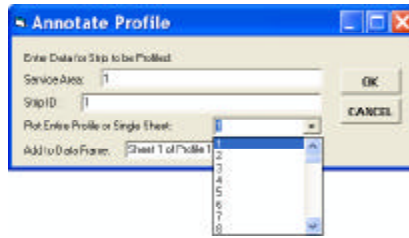

Figure 21
10. **Click** at the **fourth** menu combo box of the **CEDRA-AVsand-Menus** menu combo box bar (see Figure 12), and **select** the **Profile using Stationing** command to display the dialog box of Figure 21.
11. In the dialog box of Figure 21:
5. **Click** at the **fourth** menu combo box of the *CEDRA-AVsand-Menus* menu combo box bar (see Figure 12), and **select** the **Profile using Stationing** command to display the dialog box of Figure 21.
6. In the dialog box of Figure 21: